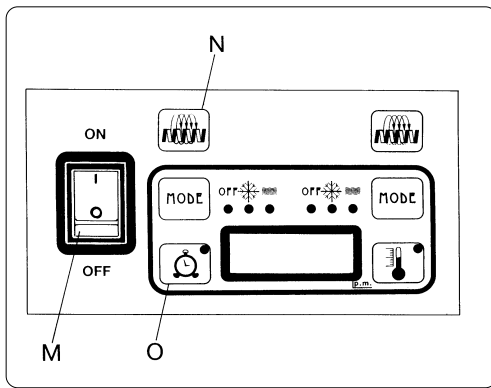

Fig. 14
- Switch the tank "off" (fig.14).